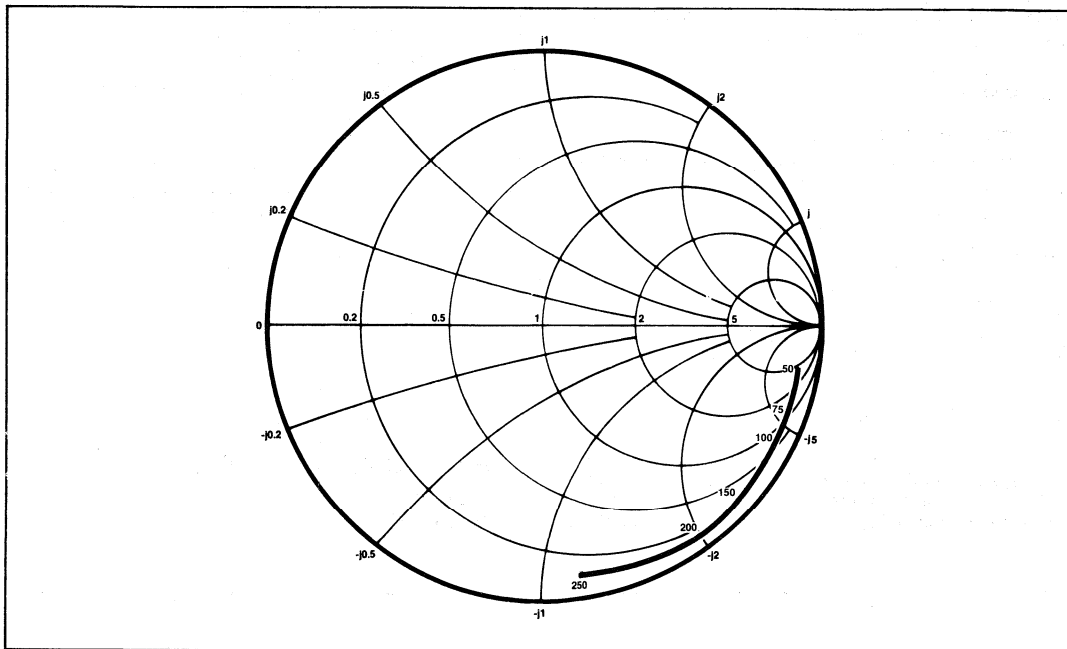

Fig.5 Typical input impedance. Test conditions: supply voltage 5.2V, ambient temperature 25° C, frequencies in MHz, impedances normalised to 50 ohms.
5. Input impedance is a function of frequency. See Fig.5.